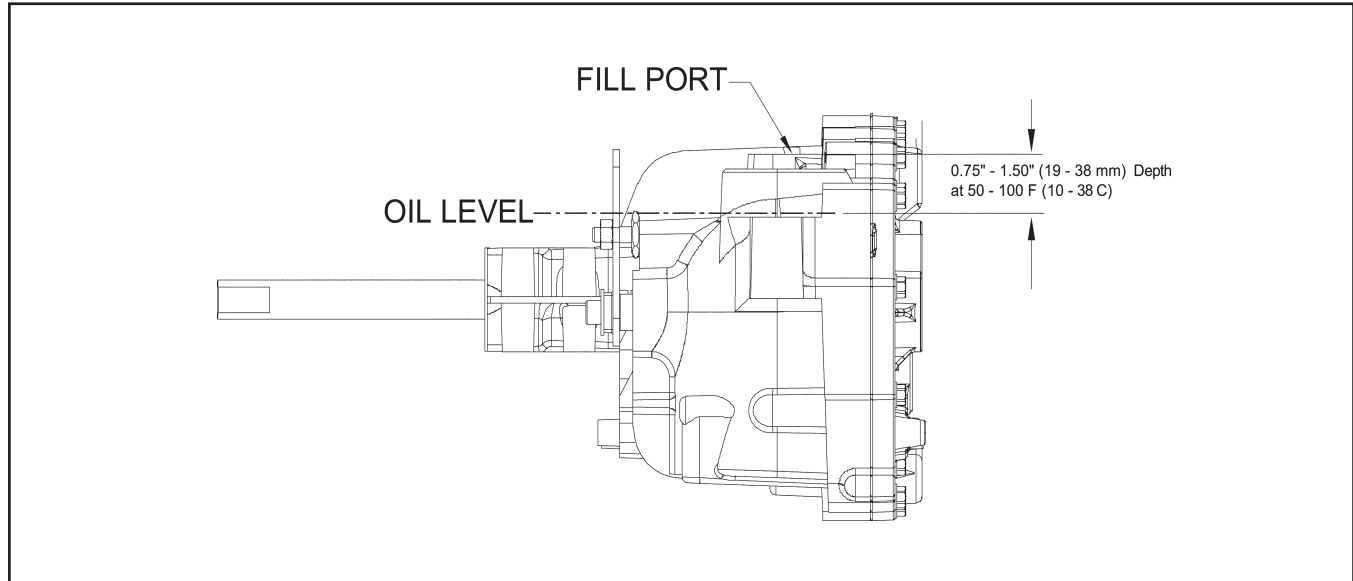

Figure 4. Fluid Level and Fill Port
2. Check oil level in accordance with Figure 4 Page 9.
Certain situations may require additional fluid to be added or even replaced. Refer to Page 4 and Figure 4 for the proper fill port location.
5. Fill the transaxle at the oil fill port according to Figure 4.
Before starting, make sure the transaxle/transmission is at the proper oil level. If it is not, fill to the specifications outlined on Page 9, Figure 4.